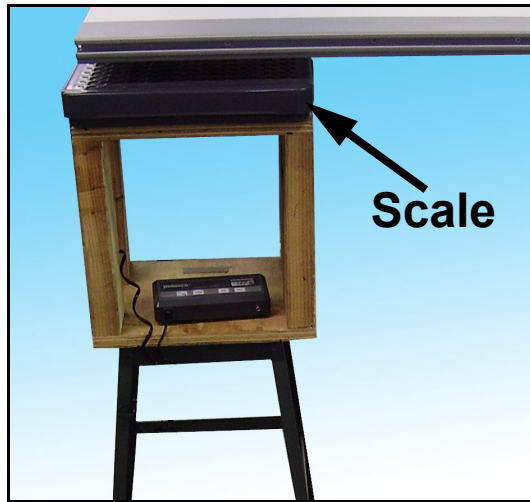

Figure 5-13. Scale & Stool Under Table Top
- 4 Place a stool or other sturdy support under the left end of the table top as shown in Figure 5-13 on the next page.